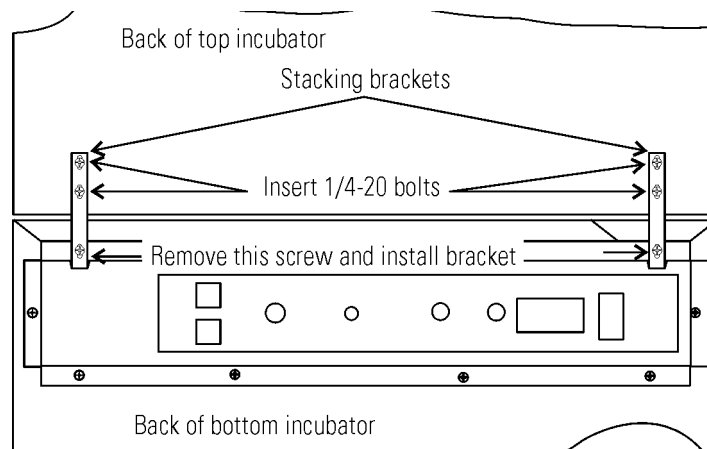

Figure 1-8. Two Screws From Control Panel Back
- Remove and retain the two screws from the back of the control panel on the bottom unit as identified in Figure 1-8.
- Secure the stacking brackets to the back of the bottom unit, using the retained screws (Figure 1-8). Be sure to align the brackets with the mounting holes on the back of the upper incubator. Secure the brackets to the upper unit with the $\frac{1}{4}$ -20 bolts provided in the stacking kit. A $\frac{7}{16}$ " wrench or socket is required for the bolts.